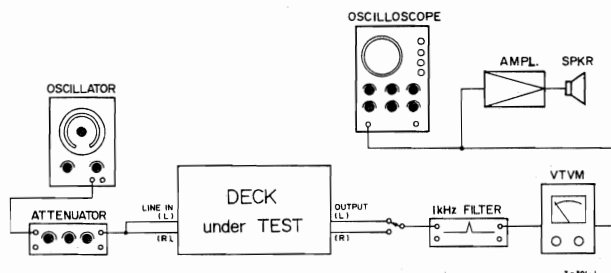

Fig. 8-11 Test Connections for Erase measurement
Check the HIGH and LOW speed Frequency Response, are within the Response limits charts. See Fig. 8-11 (C), (D) below.